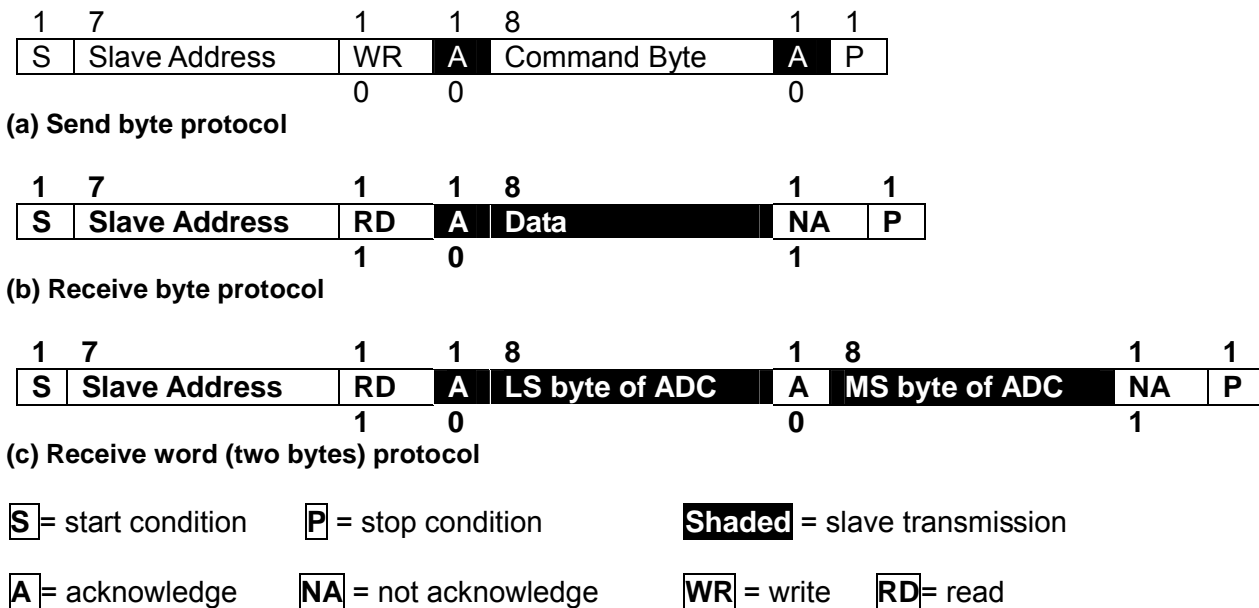

Figure 13 Communication Protocol
The Send Byte protocol allows single bytes of data to be written to the device (see Figure 13-a). The written byte is called the COMMAND byte. The Receive Byte protocol allows one-byte data to be read from the device (see Figure 13-b). Two-byte data can be read by following the Receive Word Protocol shown in Figure 13-c. In Figure 13, the clear area represents data sent by the host (master) and the shaded area represents data returned by the ambient light sensor (slave device).
- (1). After being powered on, the device will initially be in the shut-down mode (default setting).
- (2). To operate the device, issue an Send Byte protocol (see Figure 13-a) with the device address 0x39 followed by a command byte of 0x0C to activate the ambient light sensor and put the device into "continuous operation mode".
- (3). To read the ADC conversion result, issue an Receive Word protocol (see Figure 13-c) with the device address 0x39 followed by two-byte reading procedures.
- (4). If a conversion has not been completed since being activated, the valid bit (D[15]) will be 0 to indicate that the data is not valid. If there is a valid conversion result available, the valid bit (D[15]) will be set logic high, and the remaining 15 bits will represent valid data from the ADC register.
- (5). Data may be read repeatedly from the ADC register, and although it will remain valid, the ADC register will not be updated until a new conversion completes.
- (2). To operate the device, issue an Send Byte protocol (see Figure 13-a) with the device address 0x39 followed by a command byte of 0x04 to activate the ambient light sensor and put the device into "one time integration mode".
- (3). I²C master sends a "start integration command" to the salve device by issuing Send Byte protocol with the device address 0x39 followed by a command byte of binary code (1xxx_xxxx).
- (4). After a period of user defined integration time, I²C master sends a "stop integration command" to the salve device by issuing Send Byte protocol with the device address 0x39 followed by a command byte of 0x30.
- (5). To read the ADC conversion result, issue an Receive Word protocol (see Figure 13-c) with the device address 0x39 followed by two-byte reading procedures.
- (6). If the stop integration command is not received by the device, the valid bit (D [15]) will be "0" to indicate that the data is not valid. If there is a valid conversion result available, the valid bit (D [15]) will be set logic high, and the remaining 15 bits will represent valid data from the ADC register.
- (7). Data may be read repeatedly from the ADC register, and although it will remain valid, the ADC register will not be updated until a new complete integration cycle has been carried out.